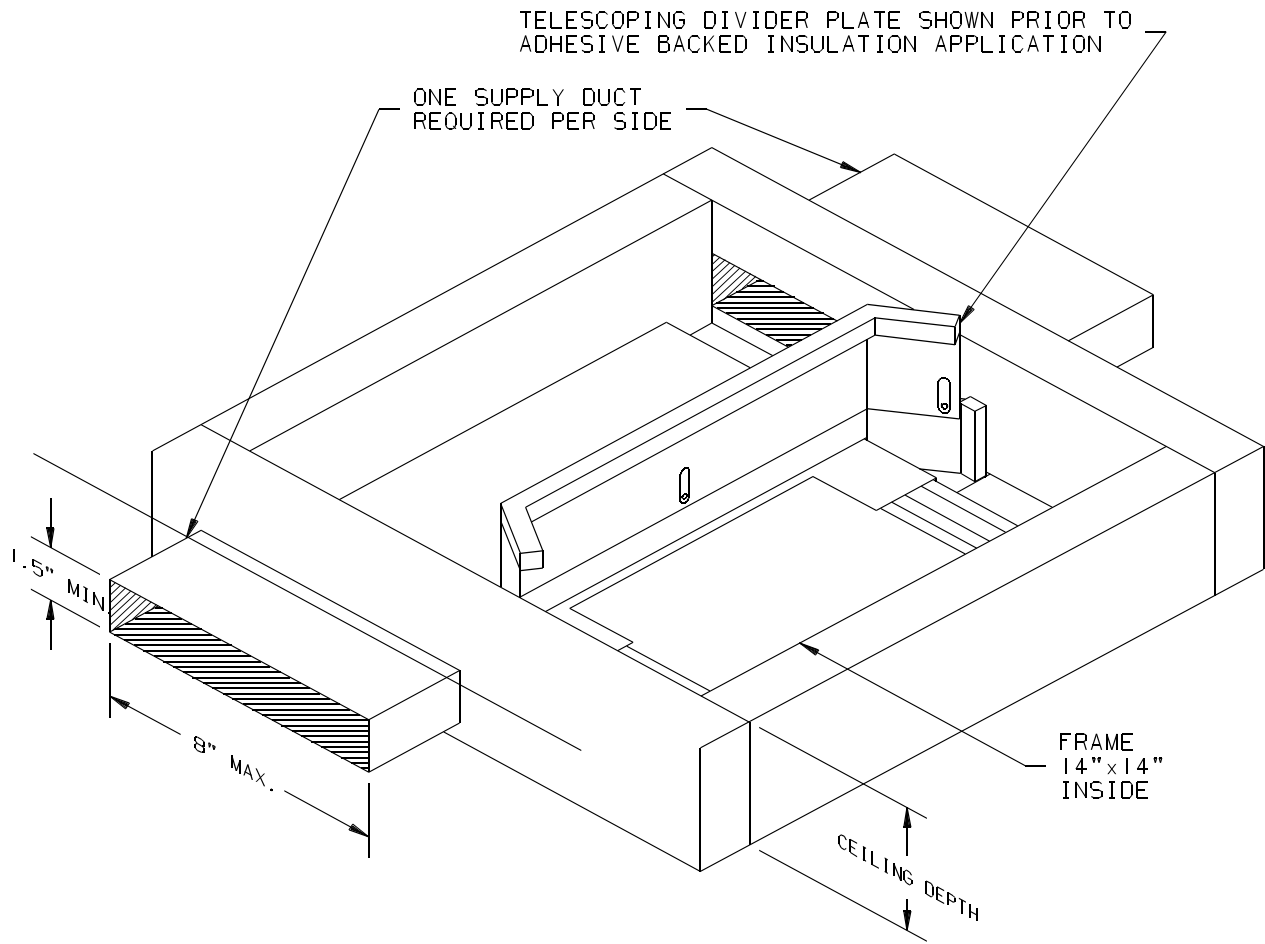

FIGURE 2
6. Measure how far the divider plate extends above the ceiling plenum electrical box. Using this measurement, trim the adhesive backed foam insulation pad (provided with this package) to this measurement. Peel off the adhesive backing and apply the insulation pad to the raised divider plate. The insulation pad is longer than the roof opening (See Figure 2).